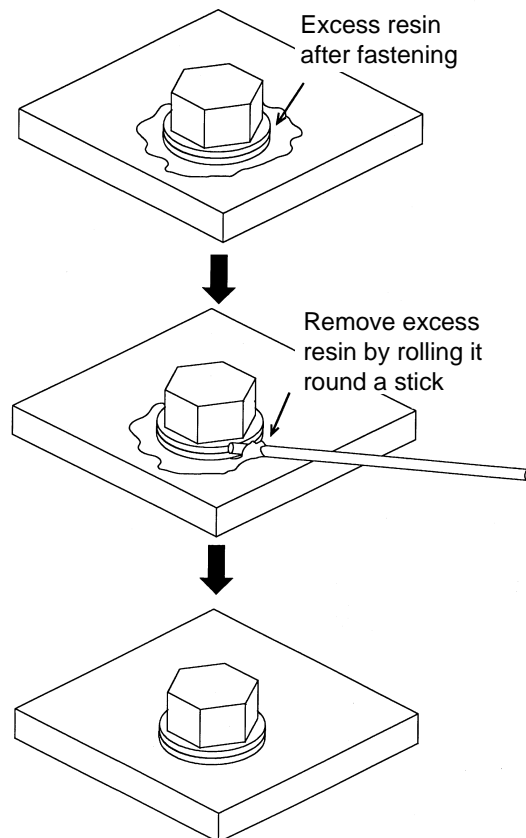

Fig. 1. Removal of excess gum-type bond
- (1) It is an environment-friendly, solvent-free reactive locking agent for screws.
- (2) It can be applied by winding it around the screws.
- (3) It has excellent filling into thread clearance, offering good sealing.
- (4) An excess can be removed easily (Fig. 1).